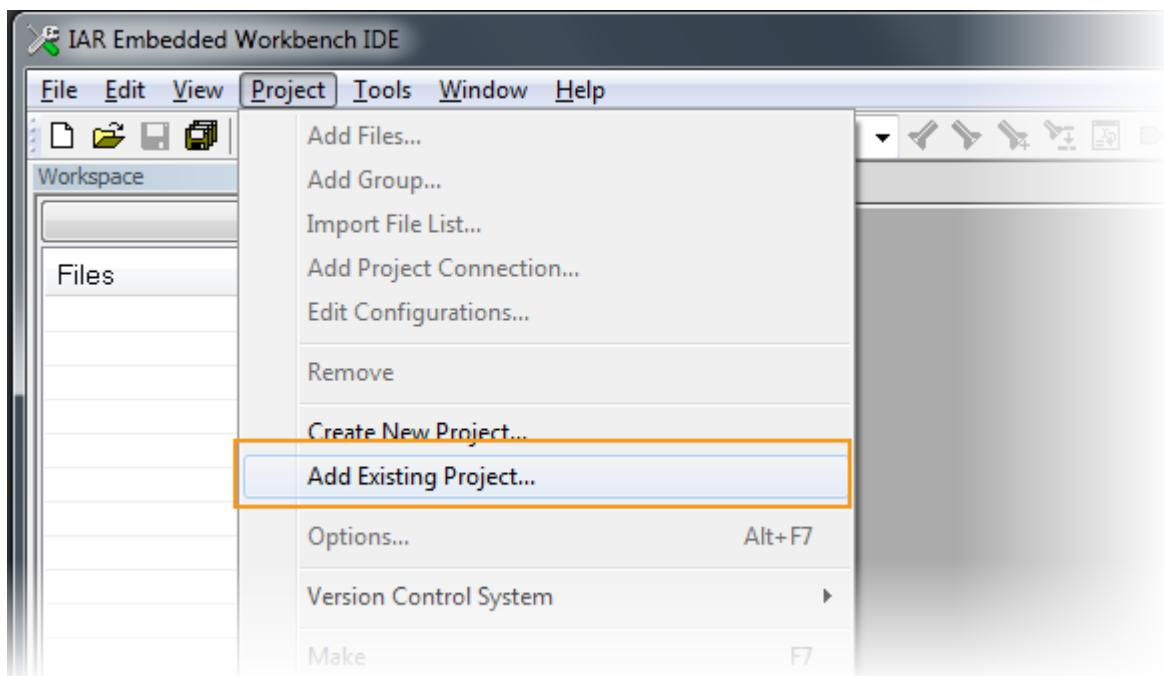

Figure 63. Importing the preconfigured project
- Navigate to **Project** (see Figure 63) in the IDE's main menu, then **Open Project**. Click **Open** to import the project. The project file is named as <project>.ewp, such as the one shown in Figure 64.